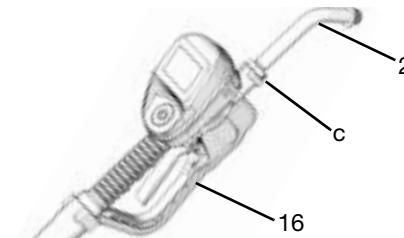

FIG. 10
1. Adjust nut (c) on extension (2) so that the maximum thread engagement of the extension can be utilized (FIG. 10).
2. Thread extension (2) into housing until it bottoms out (FIG. 10).
3. Align extension (2) with metered dispense valve housing and handle (16) (FIG. 10).
4. Firmly tighten nut (c) (FIG. 10).